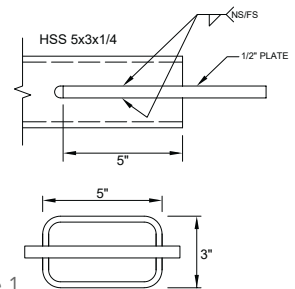

Figure 1
- For the HSS5×5×¼ slotted tension connection in Figure 1, calculate the effective area, A_e , assuming a 5-in.-long weld. Assume a gap of $\frac{1}{16}$ in. on each side of the brace slot to allow clearance for erection. Which of the following areas did you calculate?